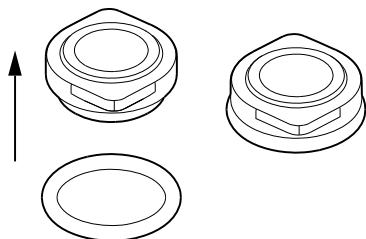

Fig. 22 Fitting the O-ring on the stationary shaft seal part
1. Fit cover plate (pos. 32) and O-ring (pos. 31). Lubricate the O-ring. See section 3. *Tightening torques and lubricants*.
2. Fit O-ring (pos. 102) on the stationary shaft seal part. See fig. 22. For correct lubricant, see section 3. *Tightening torques and lubricants*